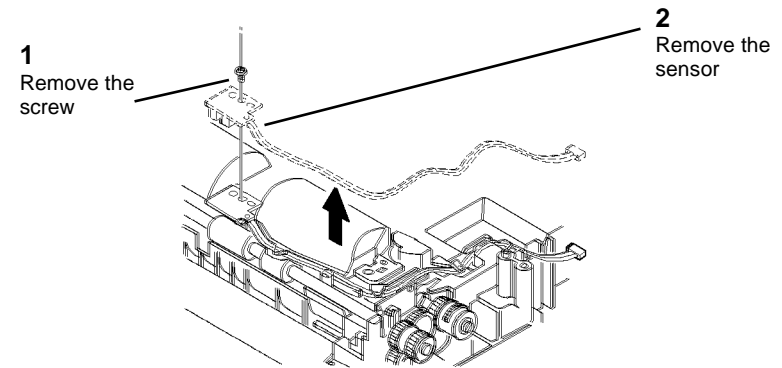

Figure 2 Removing the Paper Feed Sensor
3. (Figure 2): Remove the Paper Feed Sensor.